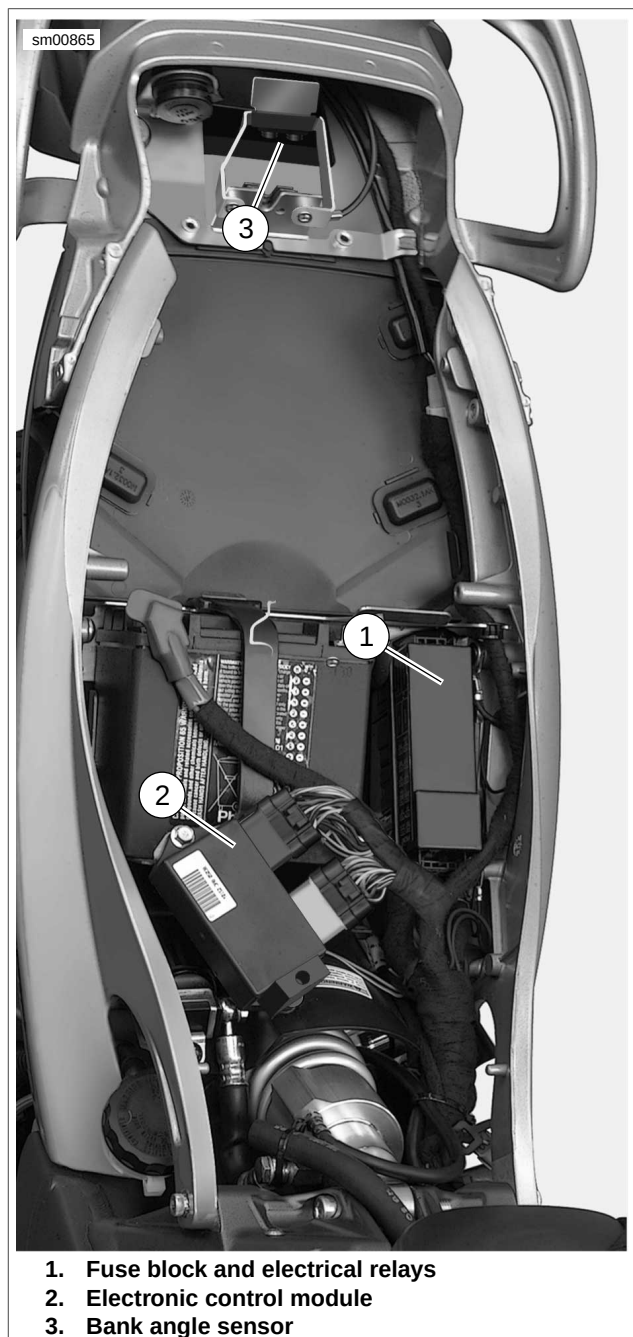

Figure 4-21. Bank Angle Sensor: Ulysses
4. See Figure 4-21. Unplug bank angle sensor connector [134] (1).
3. See Figure 4-21. Remove screws and washers to detach sensor from seat latch bracket.
4. See Figure 4-21. Remove screws and washers to detach sensor from BAS bracket.